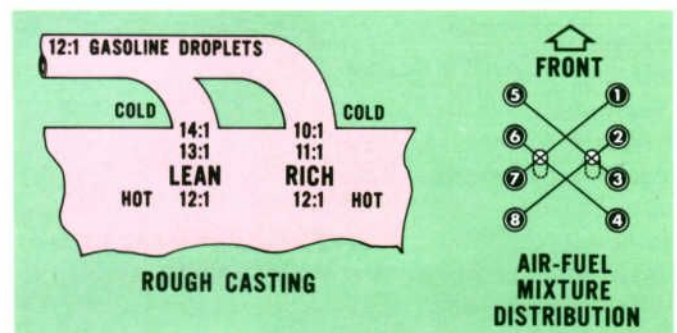

FIGURE 6. INTAKE MANIFOLD FUEL DISTRIBUTION
- The *intake system* brings the fuel-air mixture from the carburetor through the intake valves into the cylinders. Each intake manifold passage from the carburetor to the cylinder is approximately the same length. Thus, each cylinder receives a similar ratio but unequal amount of the fuel-air mixture. (See Figure 6.)